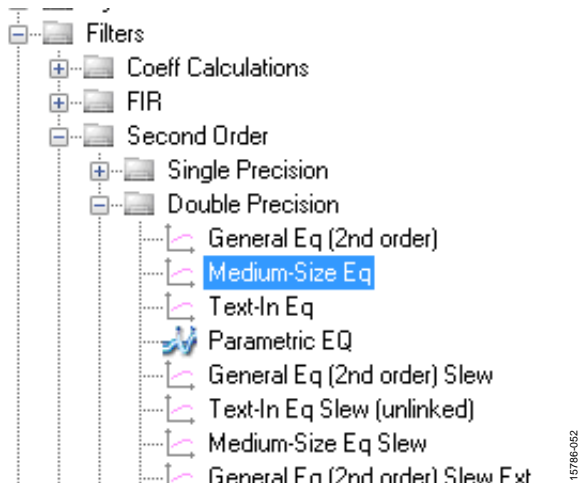

Figure 52. **Medium-Size Eq** Block Selection
- a. From the **Filters > Second Order > Double Precision** folder, click **Medium-Size Eq** (see Figure 52) and drag it into the project space to the right of the toolbox.